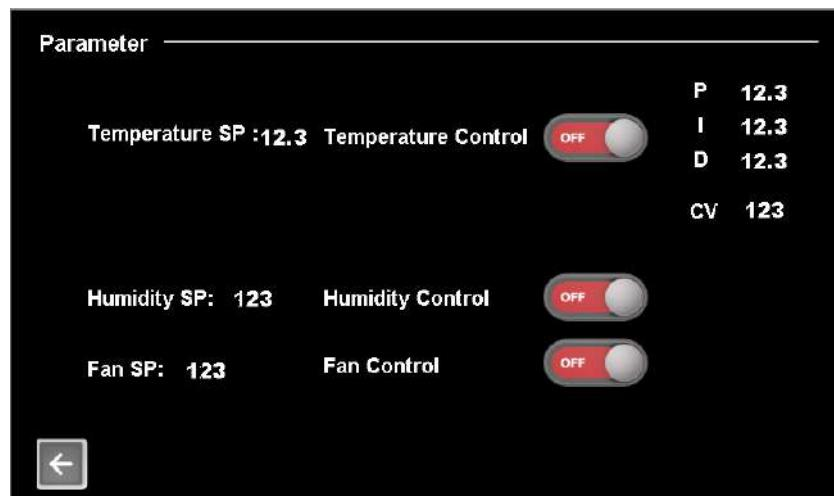

Fig. 4
- *Diagnostics:* Component status check (Fig. 4)
## ■ Control Parameters (Fig. 4)